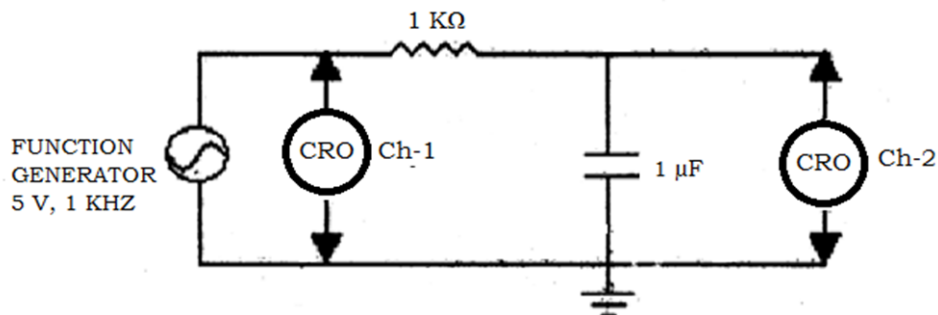

Figure 3 Circuit Diagram for Phase shift measurement
- 1) Make the connections as per the circuit diagram of fig.3.